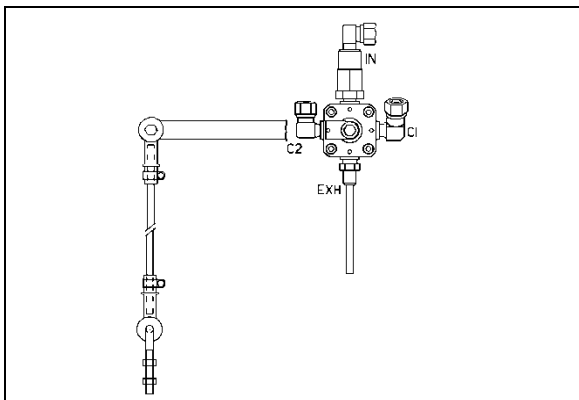

FIGURE 21: REAR HEIGHT CONTROL VALVE
- Loosen the clamp on the height control valve rubber coupling and bring it up or down (Figure 21).